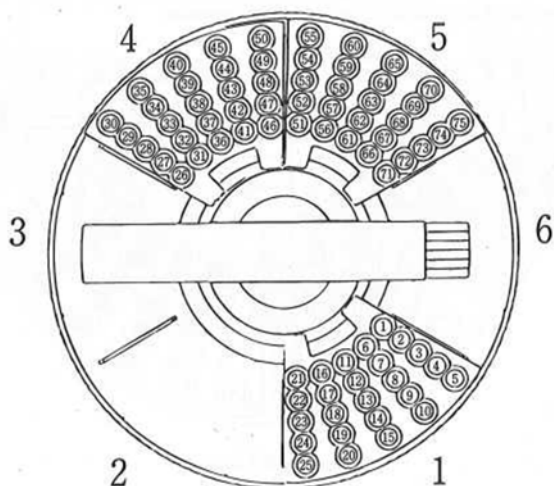
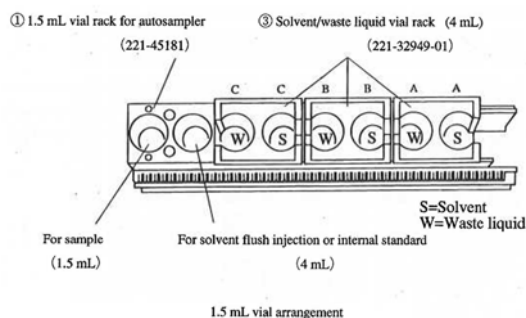

Figure 4: Diagram of the sample tray showing the location of each rack as well as the location of each sample within each rack.
Figure 5: Diagram of the autoinjector tray.
The batch file lists all of the samples that you want to analyze during the run and specifies the parameters for the instrument to use while analyzing each sample. The batch file also specifies each sample's location in the sample rack. The autosampler can be used to automatically process up to 150 samples. The autosampler plucks the sample to be analyzed from the sample rack (Figure 4) and places it in the autoinjector's tray (Figure 5). After the
- e. **Vial #** specifies the location of the first vial in the sample rack (see Figure 4). The vials are numbered 1 – 150 with position 1 being the first position in rack 1 and position 150 being the last position (position 25) in rack 6. Your vials must be placed consecutively starting from the specified location. If the instrument fails to find a vial in the specified location, data acquisition will stop.
Before starting the run, make sure that your samples are loaded into their proper places in the sample rack (see Figure 4). **Ensure that the solvent vial is in place (Solvent C in Figure 5) and contains an adequate amount of solvent.** Ensure that a waste bottle is in place (Waste
liquid C in Figure 5) and that it is not in danger of overflowing. Click Start  on the Batch